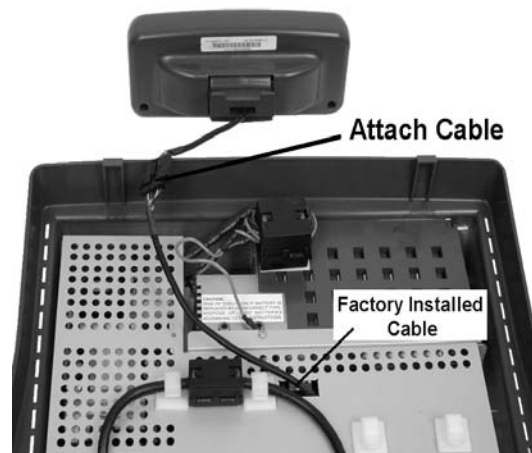

Figure 3-17: Connecting the LCD Customer Display
2. Connect the LCD Display Assembly to pre-installed interface cable as shown to Figure 3-17.